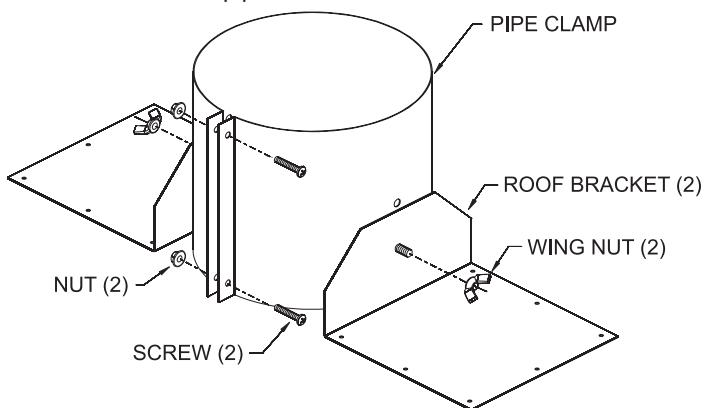

Figure 44
- While the venting is still on the floor, assemble the roof jack components as shown in Figure 44 and pre-install the roof jack assembly to the hard pipe approximately 18" from the top end of the hard pipe.